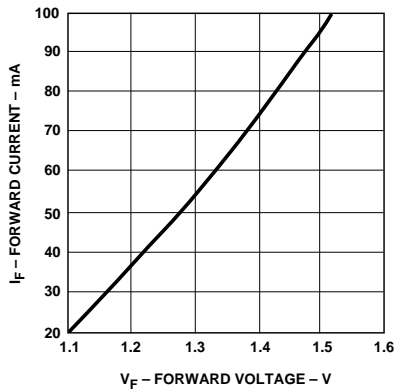

Figure 3. Typical Forward Voltage and Current Characteristics.
7. Optical rise and fall times are measured from 10% to 90% with 62.5/125  $\mu\text{m}$  fiber. LED response time with recommended test circuit (Figure 3) at 25 MHz, 50% duty cycle.